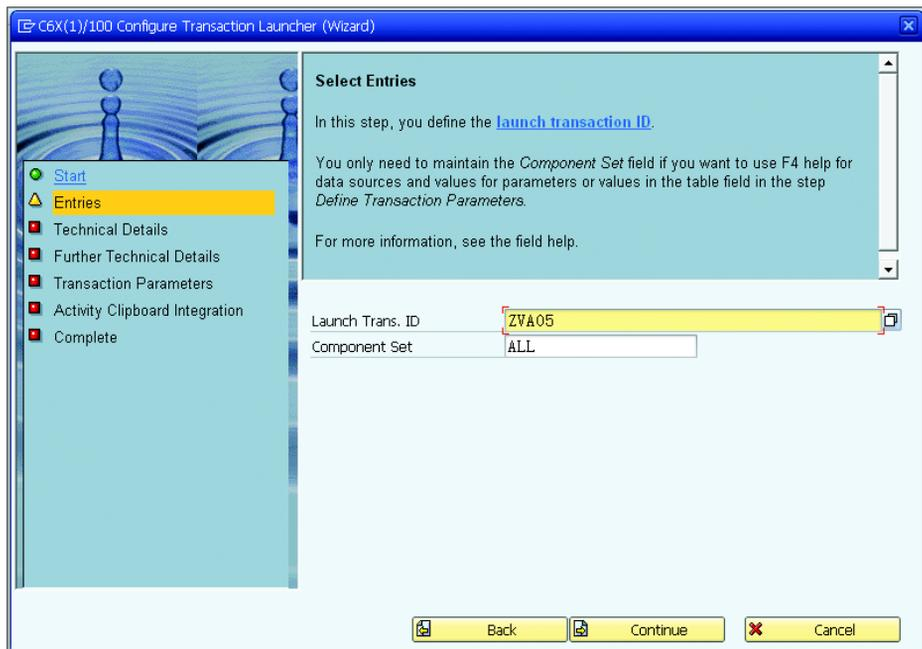

Figure 8.47 Transaction Launcher Wizard
2. Enter the LAUNCH TRANS. ID and COMPONENT SET, as shown in Figure 8.47. Click CONTINUE.